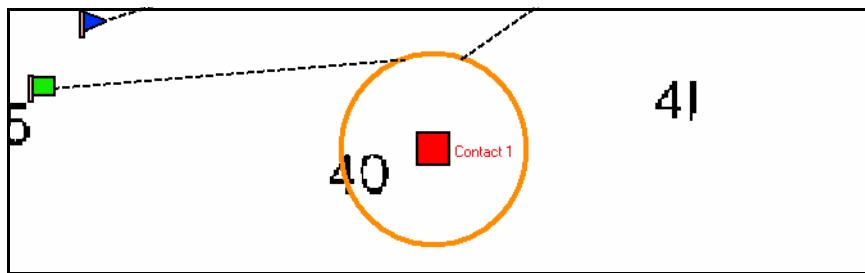

Figure 61: Completed Trackcircle in Planner
3. Planner draws a circle around the center point, and displays the survey as shown in Figure 61.